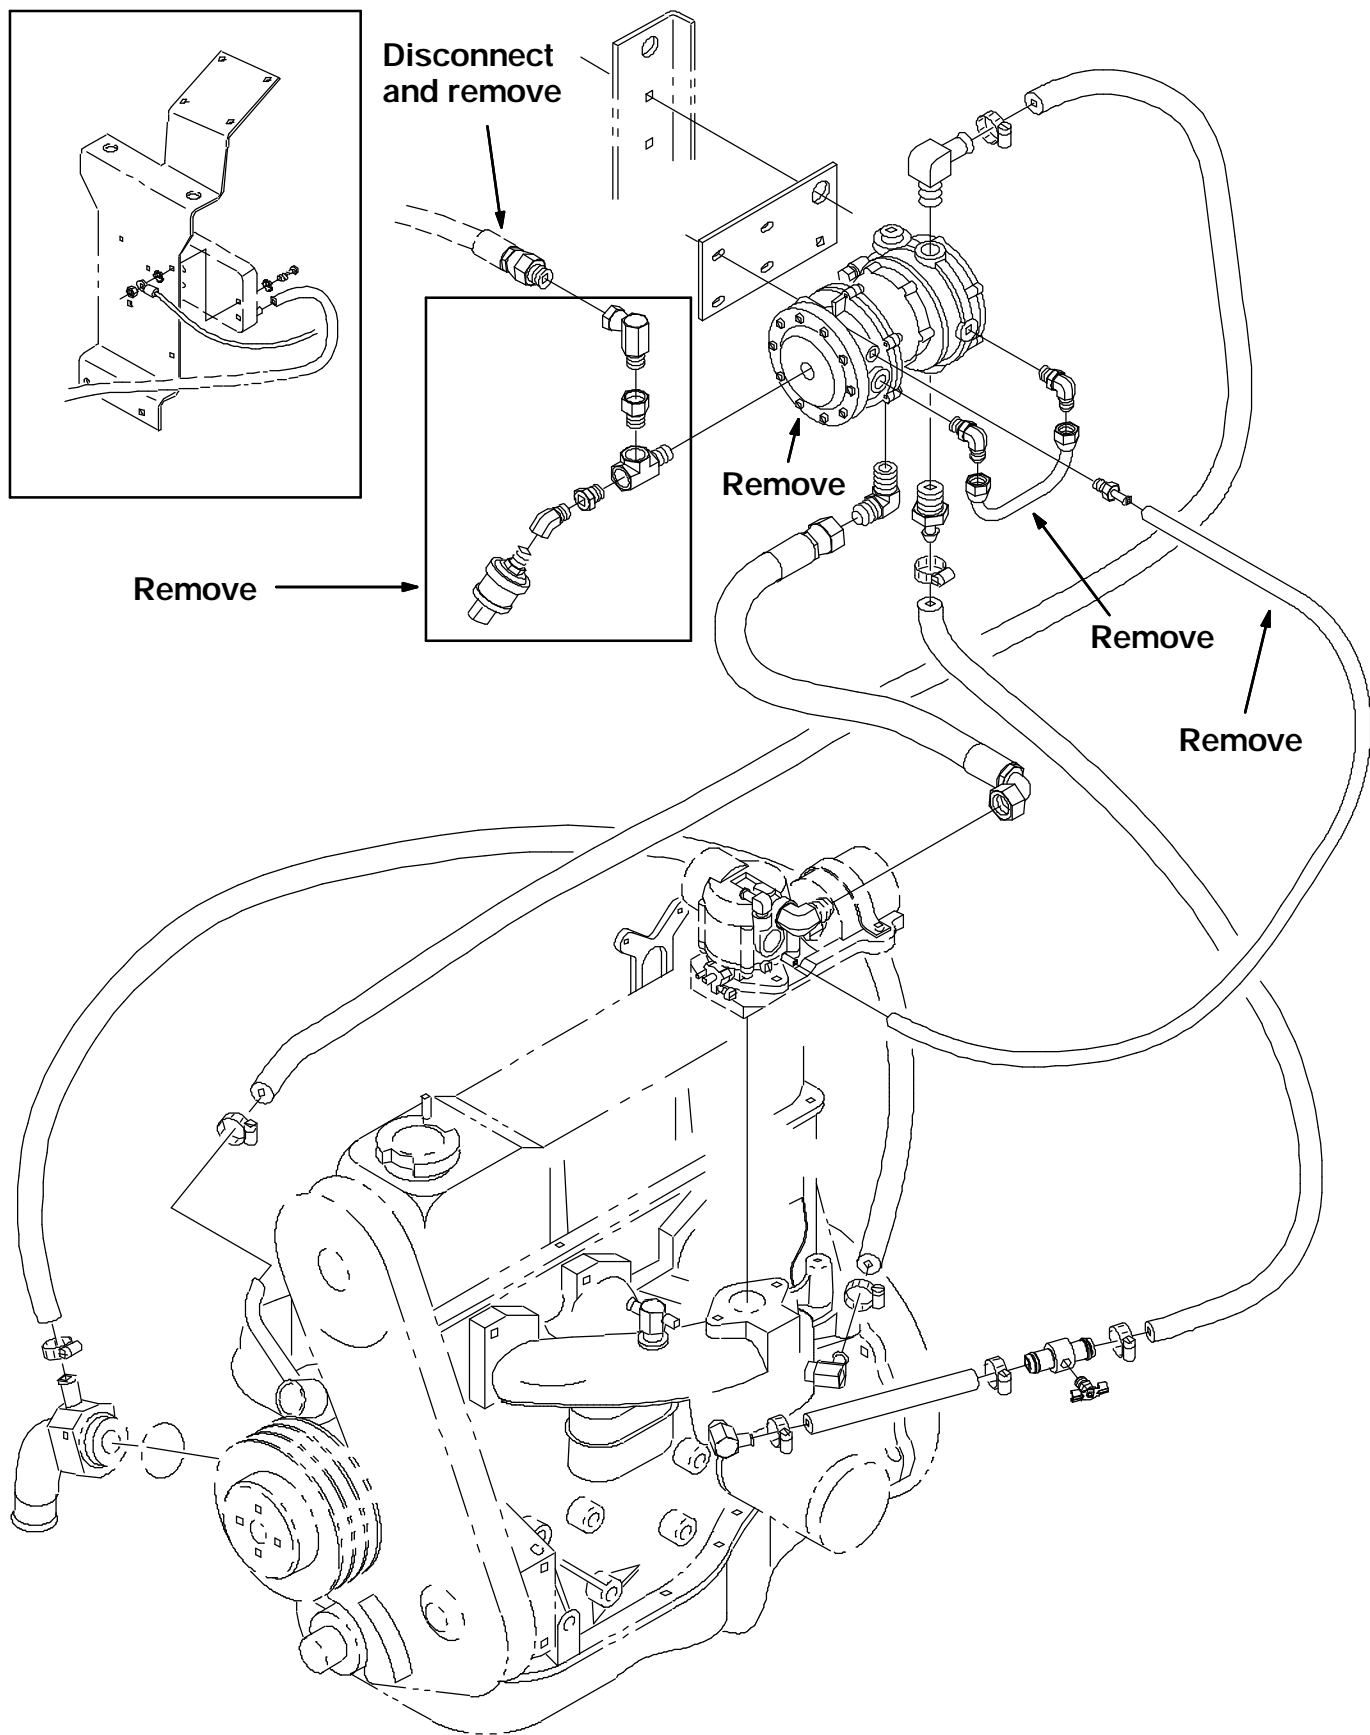

FIG. 1 - OLD FUELOCK FILTER GROUP REMOVAL
(Refer to FIG. 1 thru 8)
3. Locate the vaporizer group mounted above the engine. (Refer to FIG. 1)
5. Disconnect and remove the fuel line connecting the LPG vaporizer to the LPG fuellockoff filter. (Refer to FIG. 1)
6. Disconnect and remove the vacuum hose from the fitting in the LPG fuellockoff filter. (Refer to FIG. 1)
7. Disconnect and remove the fuel line from the 90° LPG fuellockoff fitting. (Refer to FIG. 1)
9. Disconnect and remove the LPG fuellockoff filter and pressure switch assembly from the vaporizer mounting plate. (Refer to FIG. 1)